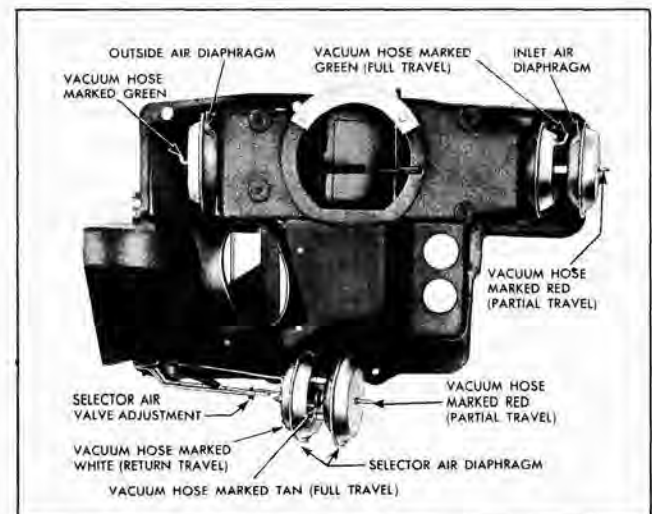

Fig. 5-48 Identification of Diaphragms and Vacuum Hose Connections
3. Replace by reversing above procedure, making sure vacuum hoses are properly connected (Fig. 5-48).